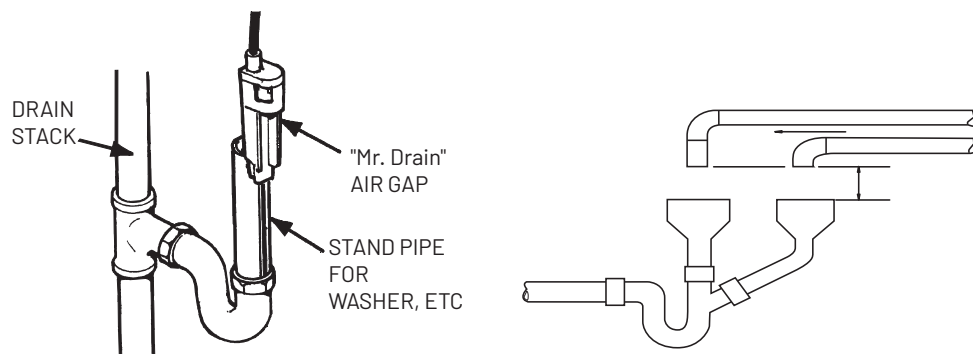

Figure 6
- The air gap should be installed between the end of the drain line and the drain to prevent possible back siphoning (see figure 6).
The air gap must be open and free of obstructions to achieve a proper backwash rate (see figure 6).